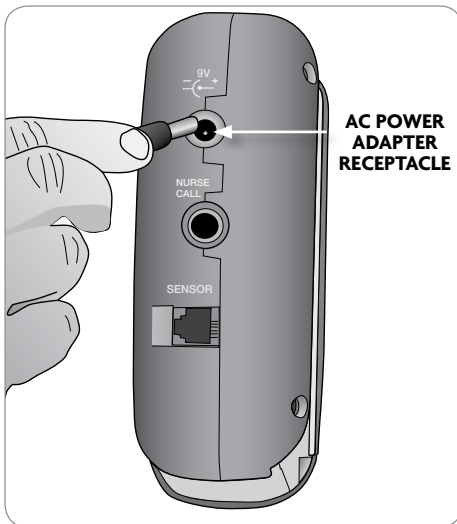

Fig. 19
1. Connect the AC power adapter to the Sitter Elite (fig. 19).